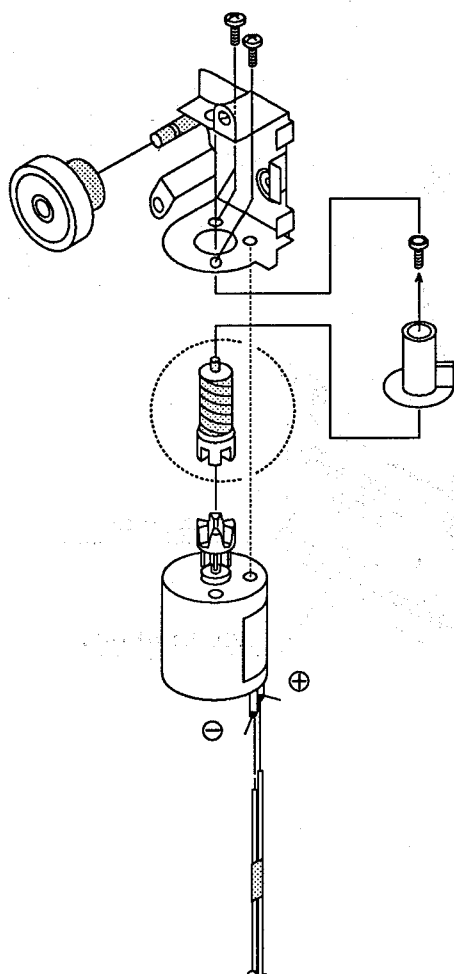

Figure 4-51.
- ① Take out the old loading motor. Place a replacement loading motor as shown above (figure 4-51.).